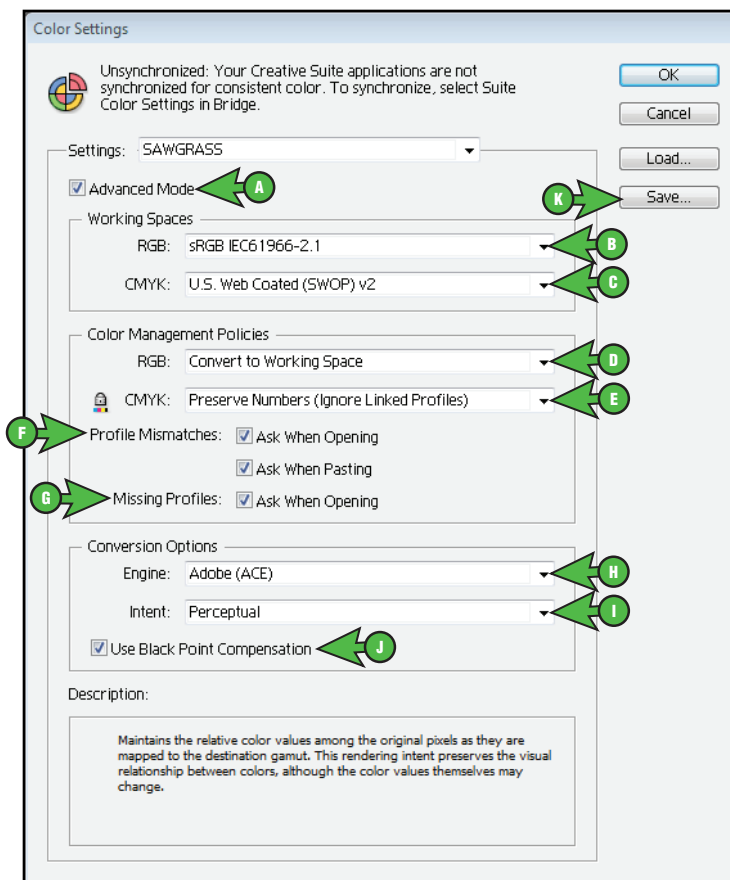

FIGURE 1
1. Begin by opening Adobe Illustrator. At the top of the application click **Edit > Color Settings**. This will open the Color Settings window (see *FIGURE 1*). Match your settings to the ones show below: